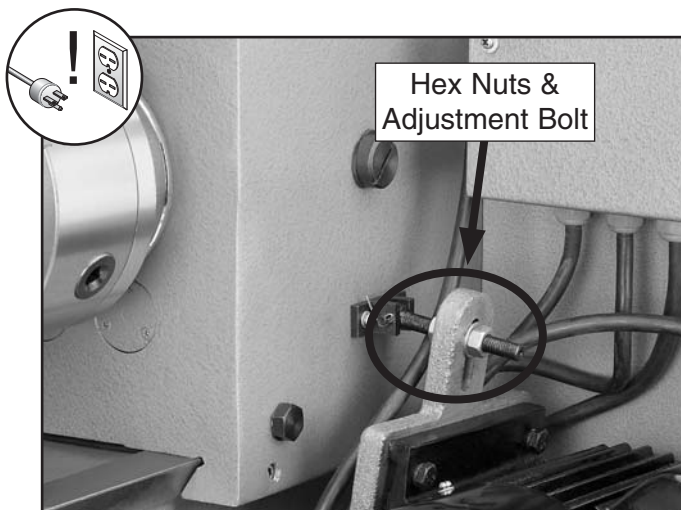

Figure 100. Motor adjustment hex nuts and bolt.
2. Loosen/adjust the hex nuts on the motor adjustment bolt shown in **Figure 100** to tilt the motor toward or away from the lathe head.